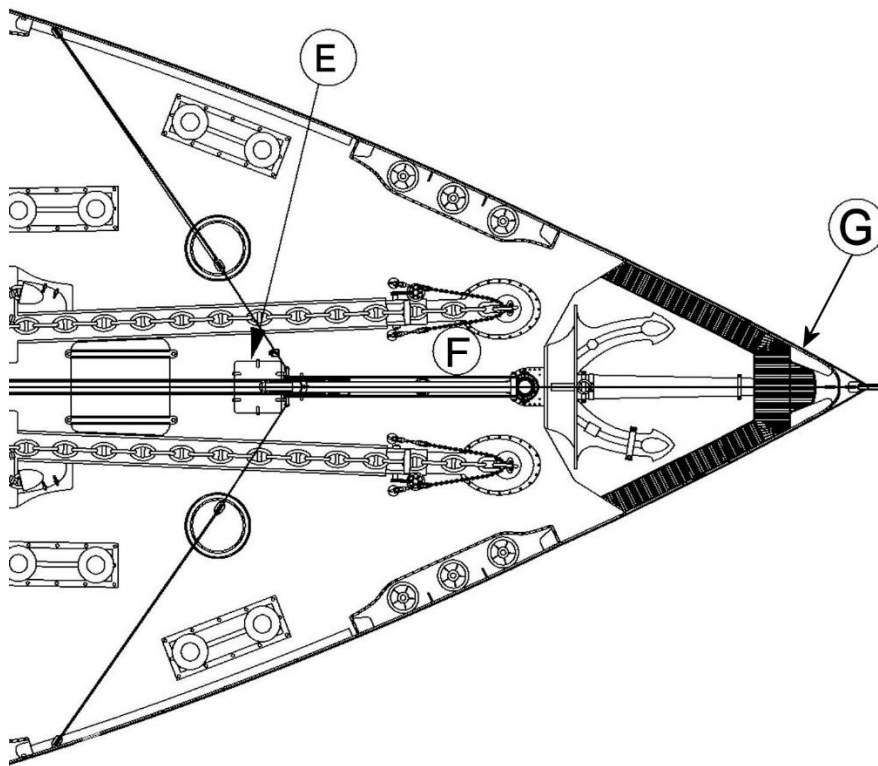
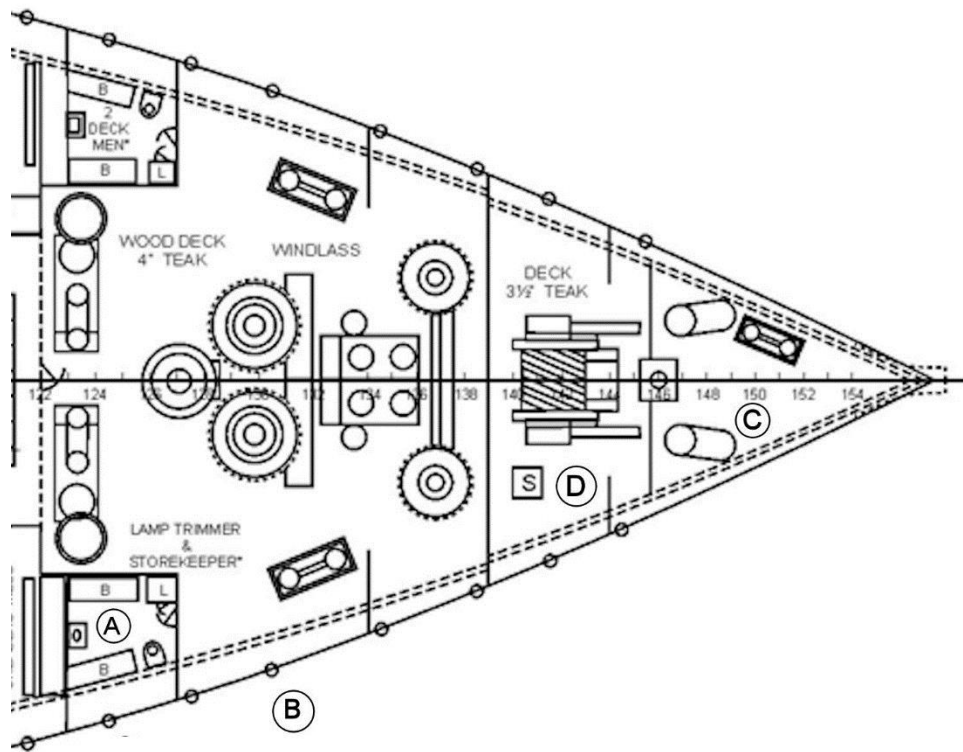

Figure5
Figure 6
Locations - In Hemming's testimony we will follow his path in trying to find the source of the hissing noise. Figure 5 is a drawing of the forecastle head area with pertinent locations mentioned in the testimony labeled. Figure 6 is a drawing of C deck directly below the forecastle deck with the same labeling.
1. Hemming is awakened by the collision. 17711, Figure 6, location A
2. Hemming exits his room and looks out a porthole and hears a hissing. 17712-13, Figure 6, Location B (could have been any of the portholes forward of his room)
3. Hemming proceeds directly forward “under the forecandle head” and finds “nothing”. 17715, Figure 6, Location C.
4. Finding nothing here he took the hatch off the storeroom so that he could descend to look for damage which would explain the hissing. 17716, Figure 6, Location D (“S”) on plan.
6. Still not finding the location of the sound, Hemming retraces his path upward and finally exits “on the forecandle head”. Most likely he proceeded from C deck up to the forecandle head via the fore-scuttle hatch which he previously located as being “on the forecandle head” 17708, Figure 5, Location E
7. Hemming goes to the forecandle head and locates the source of the sound as coming from the forepeak tank vent. 17724, Figure 5 proceeding from location F to G.
8. Hemming is asked for a clarification of the location of the forepeak tank vent and he says “underneath the forecastle head”. I believe he uses this term “underneath” for the first time to indicate that the forepeak tank vent was “underneath” the gratings over the forward anchor well. 17725, Figure 5, Location G.
9. How much later we don’t know but Hemming’s journey ends down on C deck again when he reports to Chief Officer Wilde that the hissing noise is coming from the forepeak tank vent. We know they were at Figure 6, Location C because in the American Inquiry he states that “Mr. Wilde put his head around the hawse pipe”. 17732-33, Figure 6, Location C.